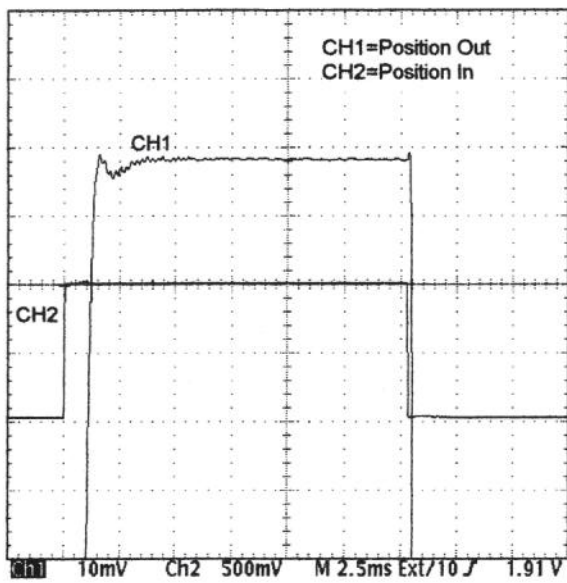

Figure 9.
6. Turn R25 CW to eliminate the overshoot. See Figure 9.